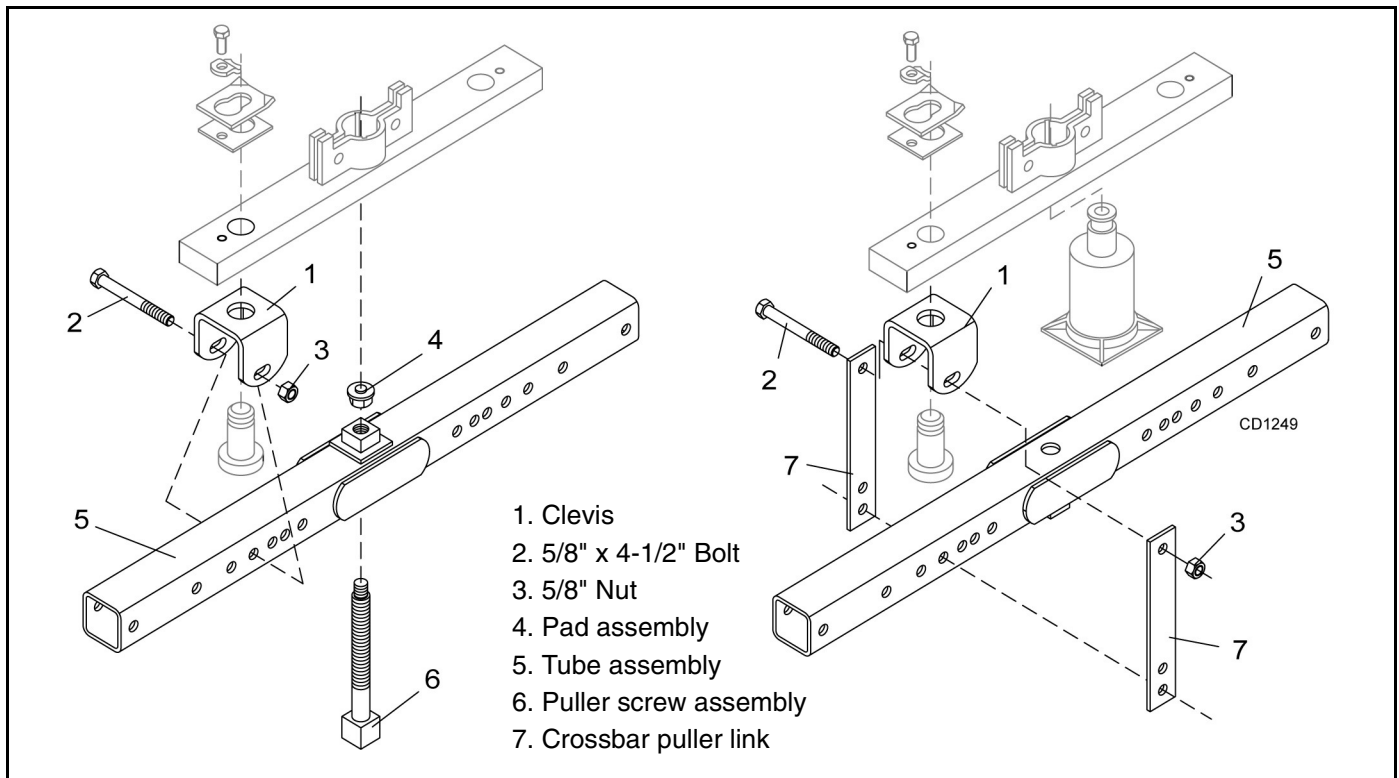

Figure 6. Crossbar Puller
For crossbar removal, it is necessary to gain access to bottom side of cutter. Raise cutter and securely block up. You may use either puller screw (6) or a small hydraulic jack to remove crossbar. See Figure 6.